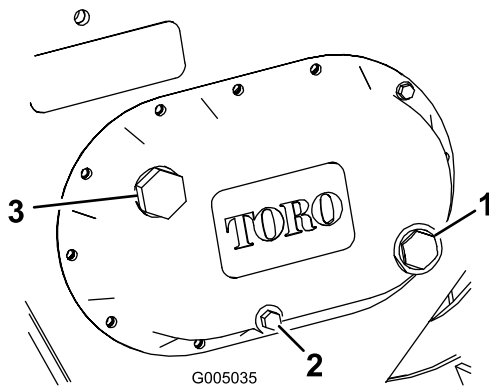

Figure 14
3. Check the clear glass gauge on the side of the gear case (Figure 14).
4. If the gear-lube level is low, remove the fill plug (Figure 14) and fill the case with gear lube until it is level with the red dot in the gauge.
4. Remove the drain plug (Figure 14), allowing the oil to spill out into the container.
6. Remove the fill plug (Figure 14) and fill the case with gear lube until it is level with the red dot in the gauge.